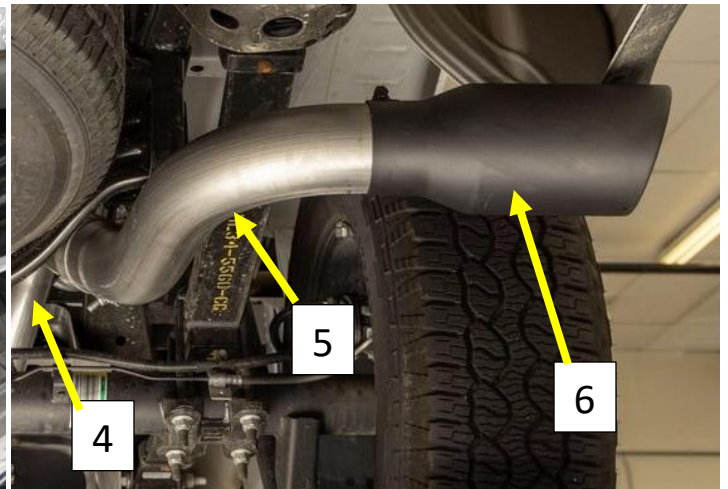

Figure.8
11. Install the tail pipe (5) on to the muffler outlet pipe (4). **Fig.8** - Tighten the clamp to allow for adjustment.
12. Install the Black Tip (6) on to the Tail pipe and adjust the stick out as desired. **Fig.8** Tighten the clamp bolt.